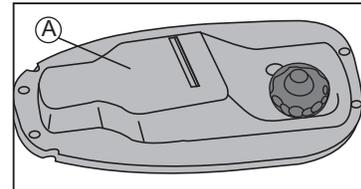

Fig. 32
1. Remove cover under seat "A" (Fig. 32).